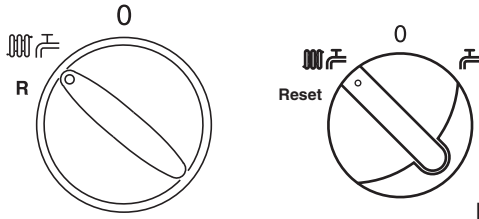

Fig. 20
**NOTE:** Depending upon model of boiler different types of Selector Switch and Central Heating Control Knob will be fitted (Figs. 20 & 21).
1. Ensure that there is power to the boiler (though it is not necessary for there to be any heating demand). Turn the Selector Switch (Fig. 20) to the boiler ON (central heating & domestic hot water) position.